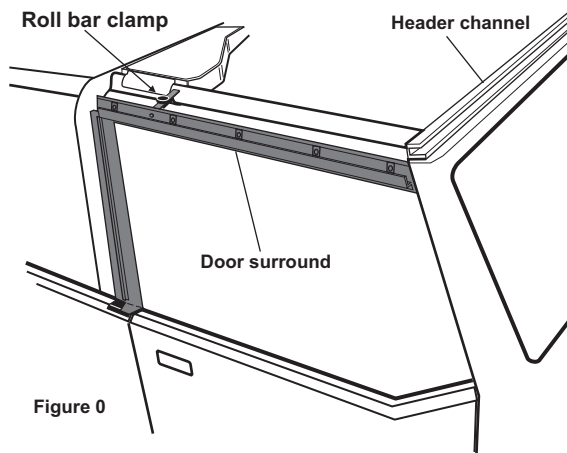

Figure 0
- Step 4.** Install the door surrounds by sliding the lower mount into the factory rail on the vehicle and inserting the windshield pin in place on the windshield upright. Loosen the clamp, place it so it is on the roll bar and then tighten. See Figure 0.